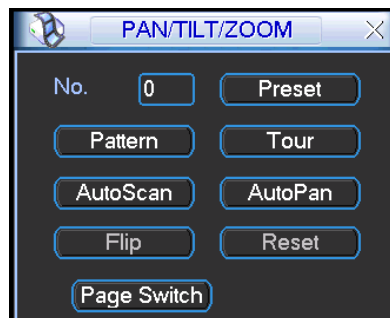
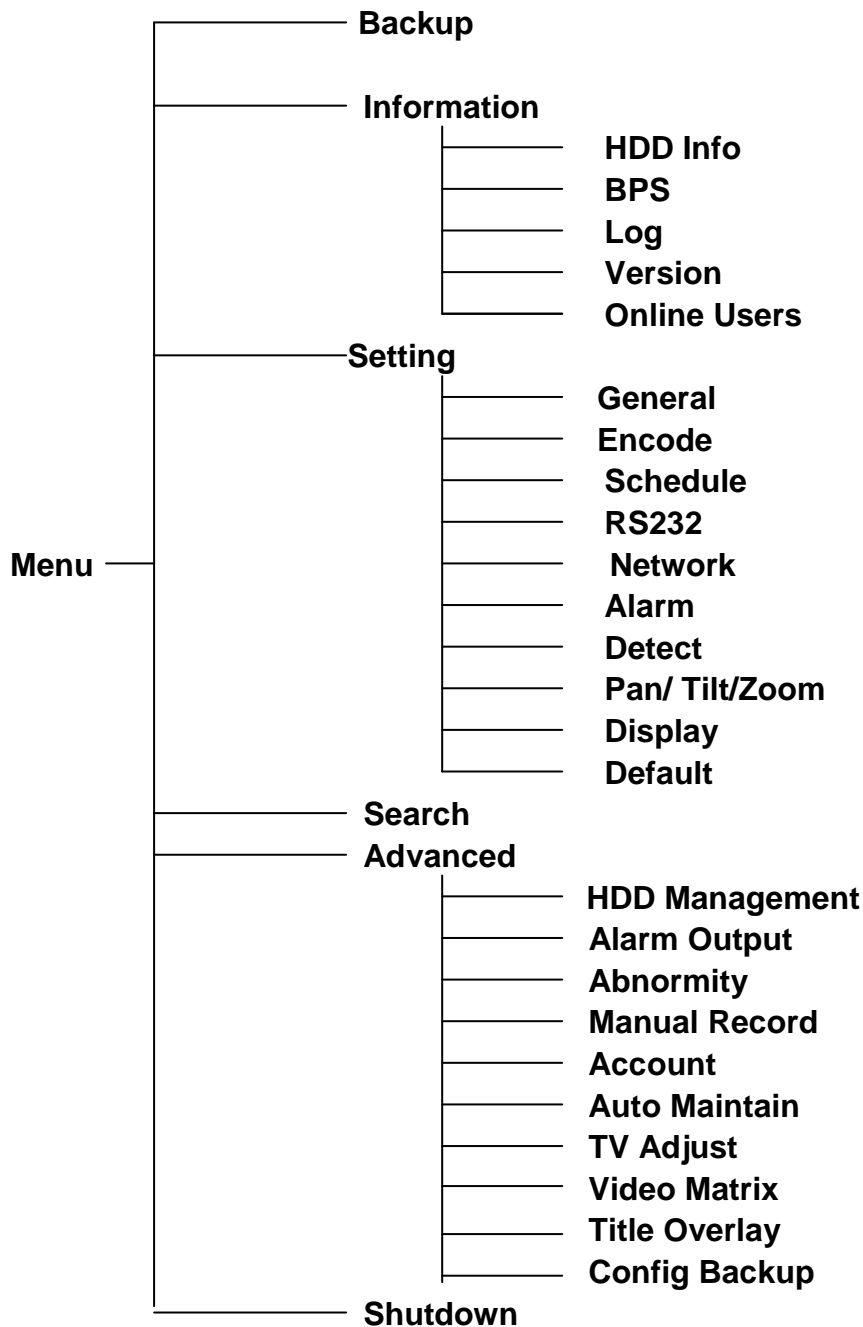

Figure 4-40
Figure 4-45
In _ Figure 4-36, click page switch button, the interface is shown as in Figure 4-40.
- The following setups are usually operated in the _Figure 4-36, Figure 4-39 and Figure 4-40.
In Figure 4-40, please input preset number in the No. blank, and click preset button.
In Figure 4-40, click "Auto Scan" button, the system begins auto scan. Correspondingly, the auto scan button becomes Stop button. Click stop button to terminate scan operation.
In Figure 4-40, click page switch button, you can see an interface is shown as below. See Figure 4-45. Here you can set auxiliary function. The aux value has relationship with the Aux button of the decoder.